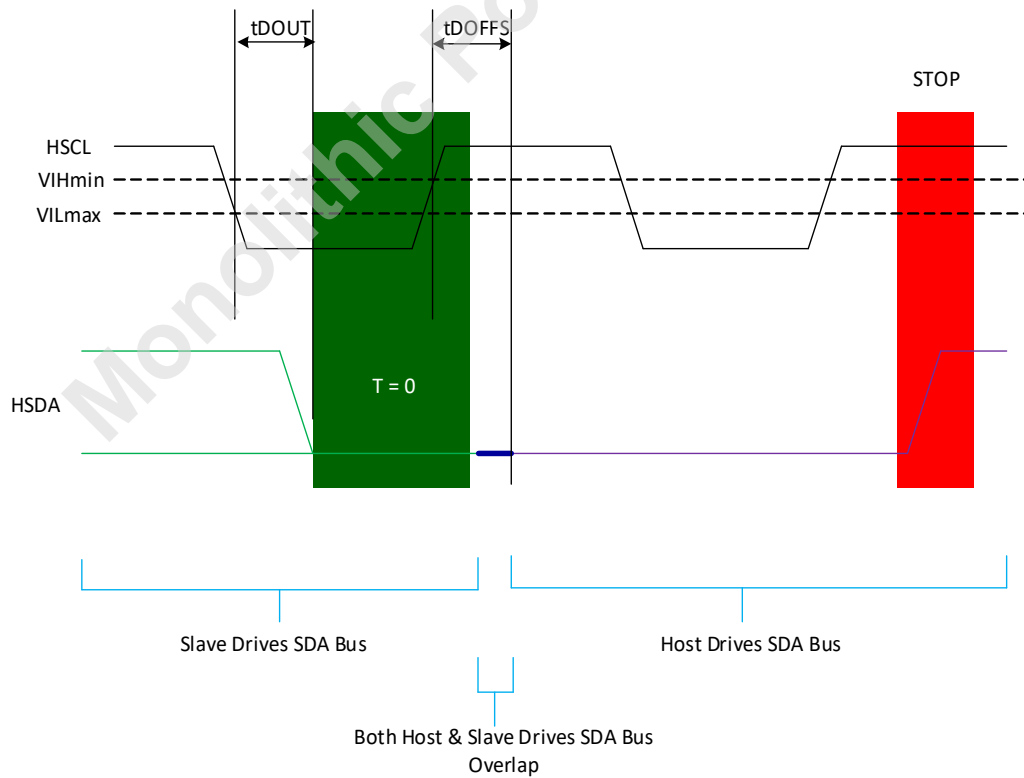

Figure 6 — T=0; Slave Ends Read; Host Generates STOP
6. See Figure 6 to see how slave device ends the operation followed by Host STOP operation.
8. When last byte (i.e MR255) is reached (extreme rare case), the slave device sends T = '0'. See Figure 6 to see how slave device ends the operation followed by Host STOP operation.
7. See Figure 6 to see how slave device ends the operation followed by Host STOP operation.
3. When last byte (i.e MR255) is reached (extreme rare case), the slave device sends T= ‘0’. See Figure 6 to see how slave device ends the operation followed by Host STOP operation.
2. See Figure 6 to see how slave device ends the operation followed by STOP operation
5. When last byte (i.e MR255) is reached (extreme rare case), the slave device sends T = '0'. See Figure 6 to see how slave device ends the operation followed by Host STOP operation.
4. See Figure 6 to see how slave device ends the operation followed by STOP operation
2. See Figure 6 to see how slave device ends the operation followed by Host STOP operation.